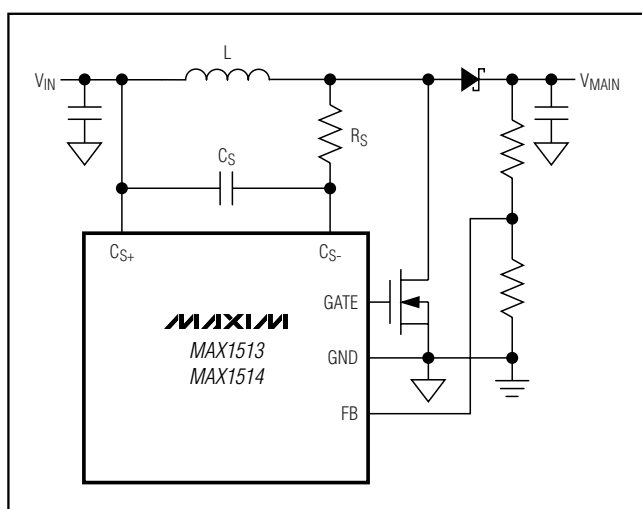
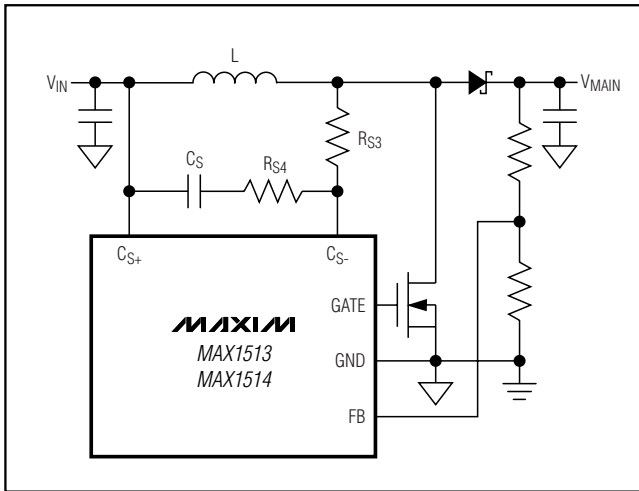

Figure 8. Lossless Current Sensing with 80mV < V_{SENSE} < 100mV
Figure 10. Lossless Current Sensing with $V_{SENSE} < 80mV$
4) Compare the calculated sense voltage with the minimum value of the current-limit threshold in the *Electrical Characteristics* (100mV). If the sense voltage is between 80mV and 100mV, use the current-sense configuration in Figure 8 with the calculated C_S and R_S above.
6) If V_{SENSE} is less than 80mV, the current-feedback signal is low relative to the current-limit threshold. Use the Figure 8 configuration, or, if good current-limit accuracy is desired, use the optional current-sense configuration in Figure 10 to increase the amplitude of the sense signal. Calculate R_{S3} and R_{S4} :
Because V_{SENSE} would be between 80mV and 100mV, the circuit in Figure 8 should be used. The closest 1% standard value for R_S is 909 Ω .
Because V_{SENSE} would be much less than $80mV$, the circuit in Figure 10 can be used to improve the current-limit accuracy. Calculate R_{S3} and R_{S4} :